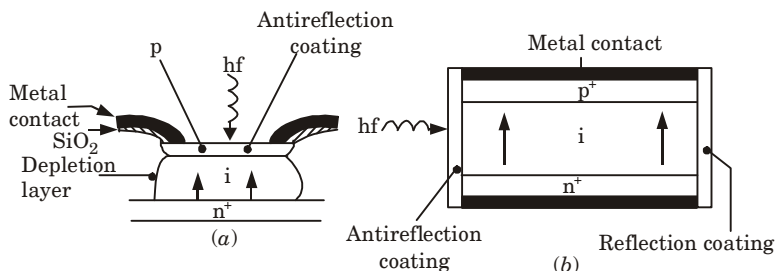

Fig. 4. (a) Structure of a front illuminated silicon p - i - n photodiode
- Fig. 4 shows the structure of two types of silicon p - i - n photodiode for operation in the shorter wavelength band below $1.09 \mu\text{m}$.